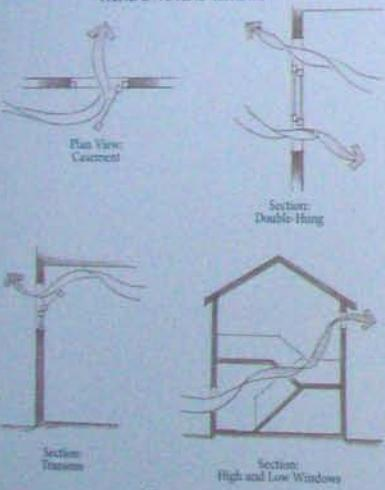

Figure 9
- Experiment with your existing windows to improve airflow (see figure 9). If your house has casement windows, not only can you get the maximum ventilation area for a given glass area, but you can also use the windows to catch and direct airflow. For double-hung windows, you might want to try opening both sashes partway; this can let cooler air in at the bottom and warmer air out at the top. If you have operable transoms above doors and windows (interior or exterior), use them to exhaust hot air that collects near the ceiling; you might want to add transoms if you don't already have them. If your house has more than one level, try opening high and low windows to pull air through the house vertically.